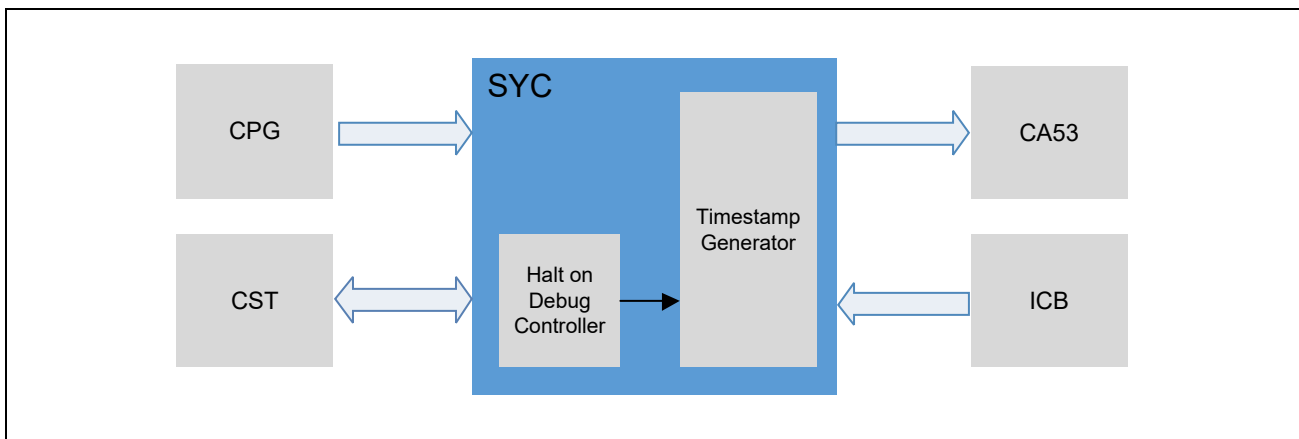

Figure 11.2-1 Block Diagram
**Figure 11.2-1** shows a block diagram of the SYC.